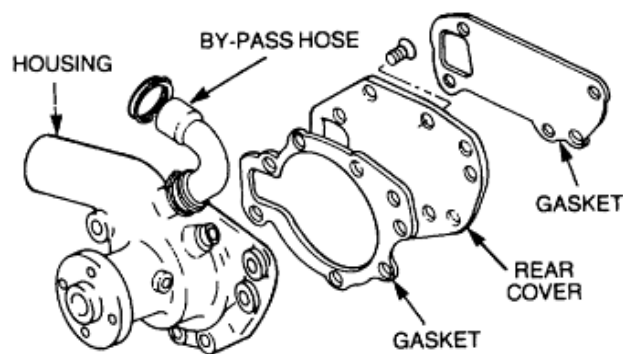

Figure 20 Water Pump Gasket Replacement
- g. Loosen the hose clamps securing the bypass and heater hoses to the water pump and remove them (Figure 20).